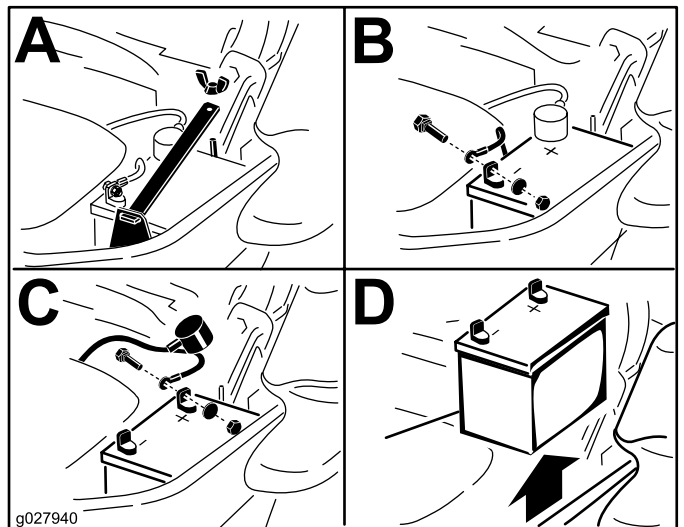

Figure 47
3. Disconnect the negative battery cable (black) from the negative (-) battery terminal (Figure 47).
4. Slide the red terminal boot off the positive (red) battery terminal, and remove the positive (+) battery cable (Figure 47).
5. Remove the wing nut securing the battery clamp (Figure 47).
6. Remove the clamp (Figure 47).
1. Position the battery in the tray with the terminal posts opposite from the hydraulic tank (Figure 47).
4. Secure the cables with 2 bolts, 2 washers, and 2 locknuts (Figure 47).
6. Install the clamp and secure it with the wing nut (Figure 47).